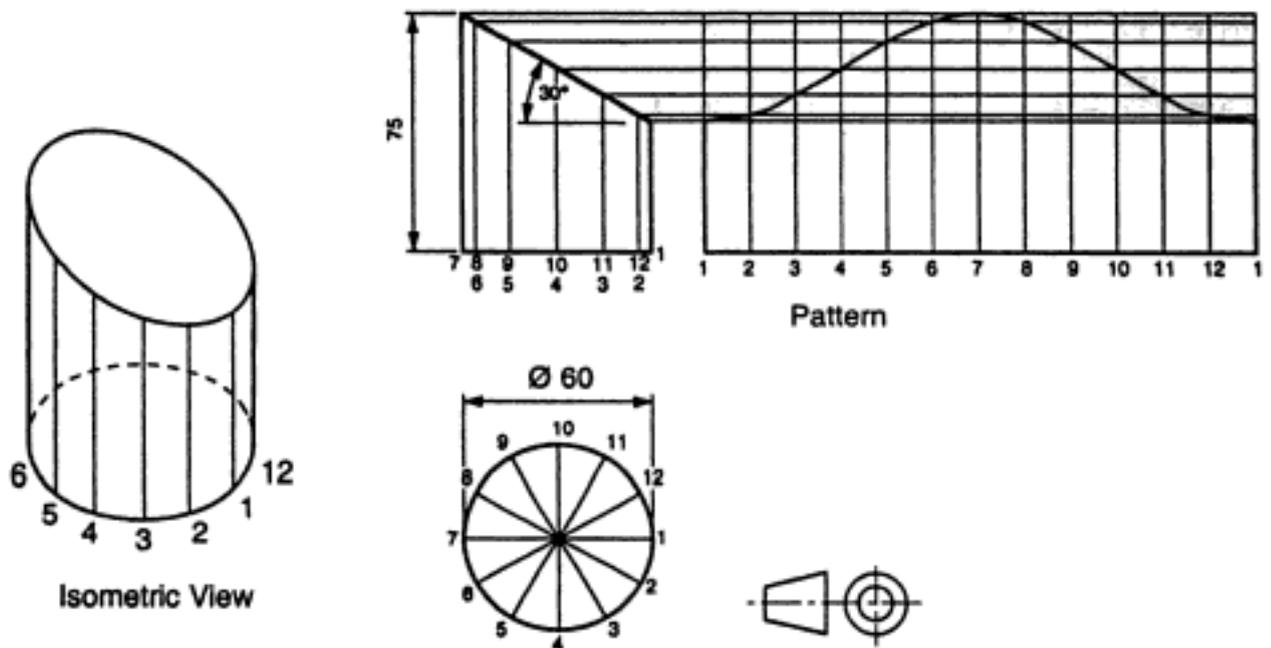

Fig 6.40
Two views of a cylindrical sheet-metal pipe, cut off at an angle and open at both ends, are shown in fig 6.35. The development is shown in fig 6.40.
Step 1: Draw the front view and top view to scale. Divide the circumference of the circular top view into 12 equal parts and number the parts as shown in fig 6.40.